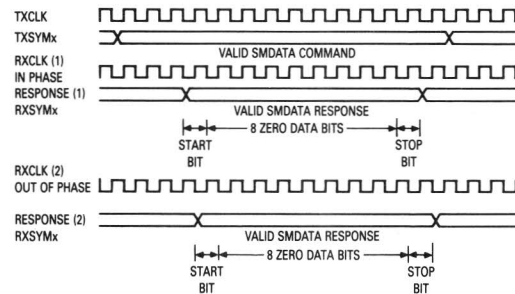

Figure 8-2. SMDATA Command Response Time
3. The SMDATA command response timing is shown in Figure 8-2. The NAK response to the SMDATA command is available on the RXSYMx pins in 2.5 or 3 clock periods depending on the relative phases of the TXCLK and RXCLK signals. When NAK becomes valid, RXSYM0 is low creating a start bit